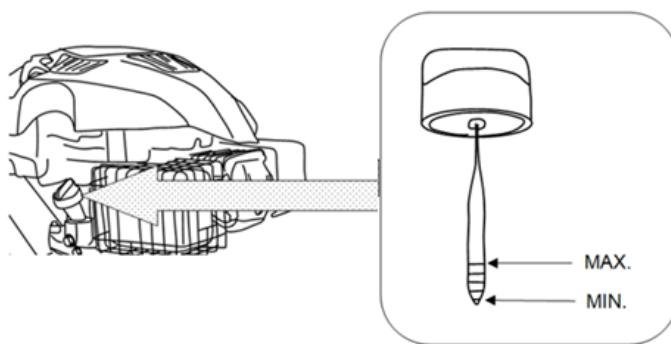

Fig. 8
- 3) Check the oil level frequently while filling. Wipe the oil dipstick clean; refit and tighten the filler cap and then remove it again. The oil level must be within the min / max markings. Add more oil if necessary. Do not overfill (Fig. 8).